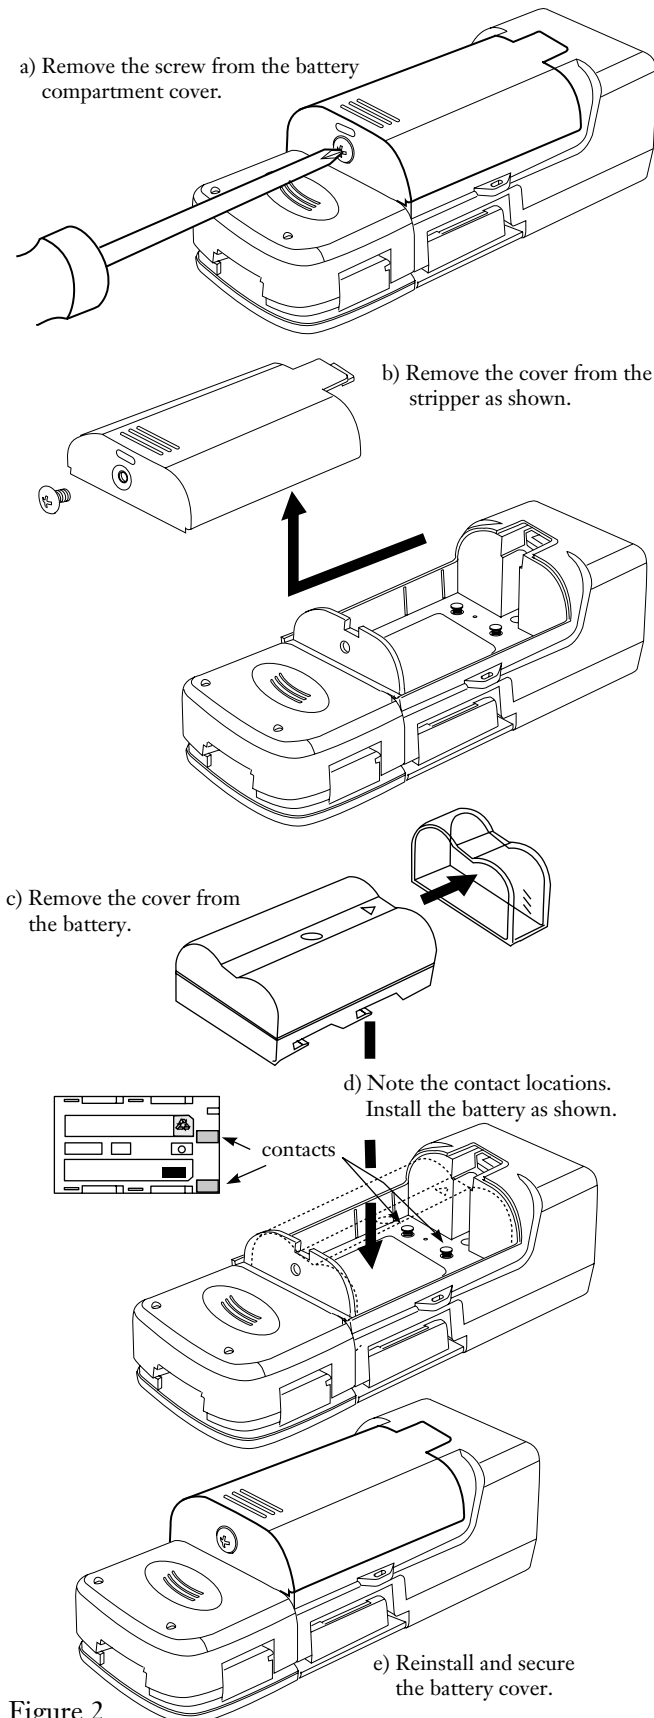

Figure 2
3.2 Install the battery as shown in Figure 2.